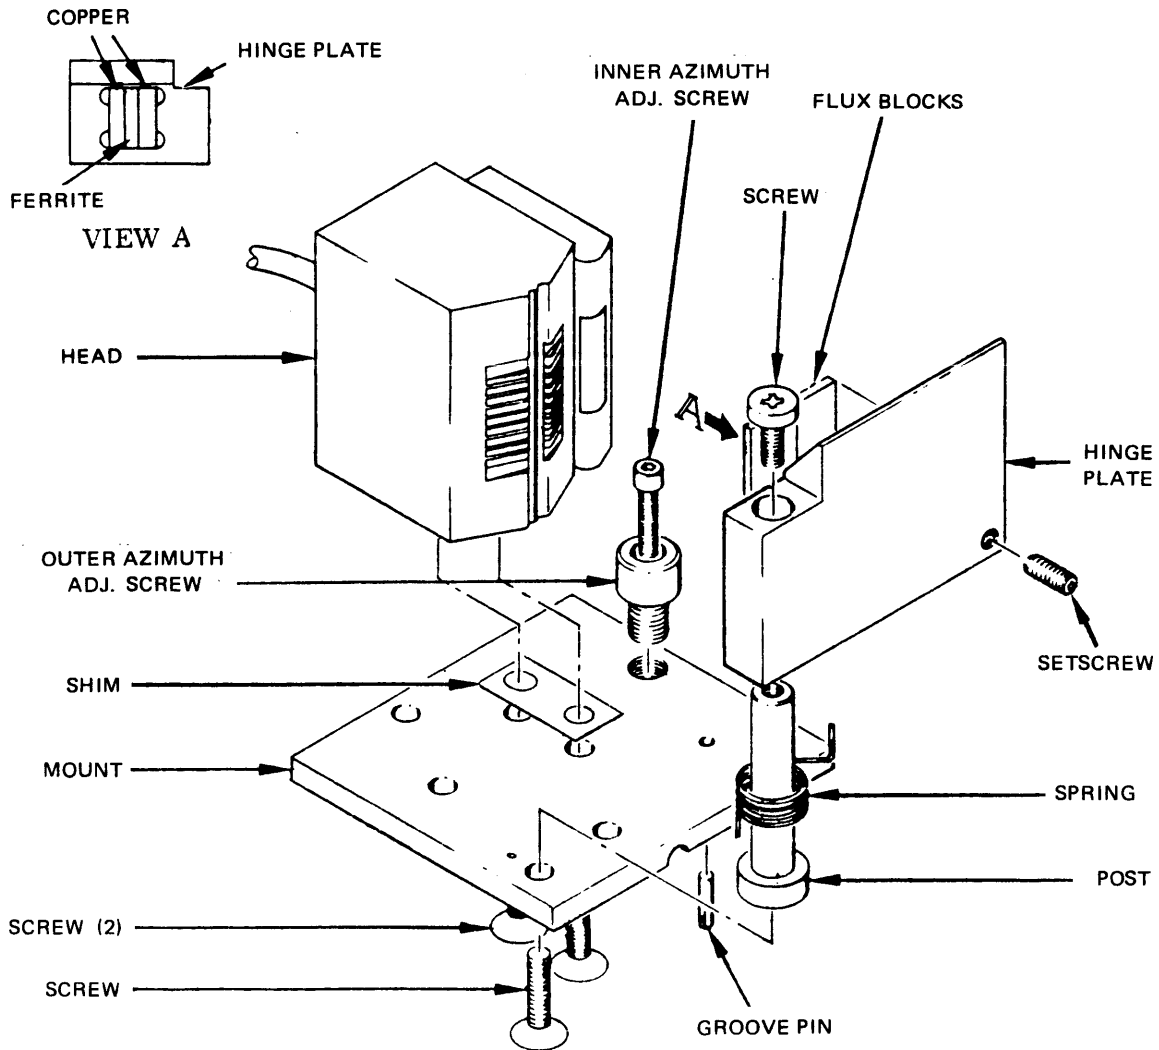

Figure 5-3. Head Assembly Adjustments
5-17. HEAD ASSEMBLY. Replace the head assembly in accordance with the following procedures (Figure 5-3):
- e. Feed wires and connectors of replacement head assembly carefully through hole, and secure head assembly to base plate with three socket-head screws not used for azimuth adjustment. Thread outer azimuth adjustment screw into head assembly mount (Figure 5-3), and thread inner azimuth adjustment screw loosely into it.